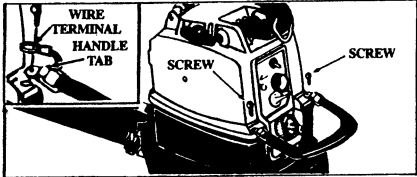

Figure 1
- Remove the two screws shown in Figure 1 with a screwdriver.
- Align the Rear Handle Tabs over the screw openings and reinstall screws. If unit has external grounding wire, place wire terminal between screw head and handle tab. Figure 1 (inset).